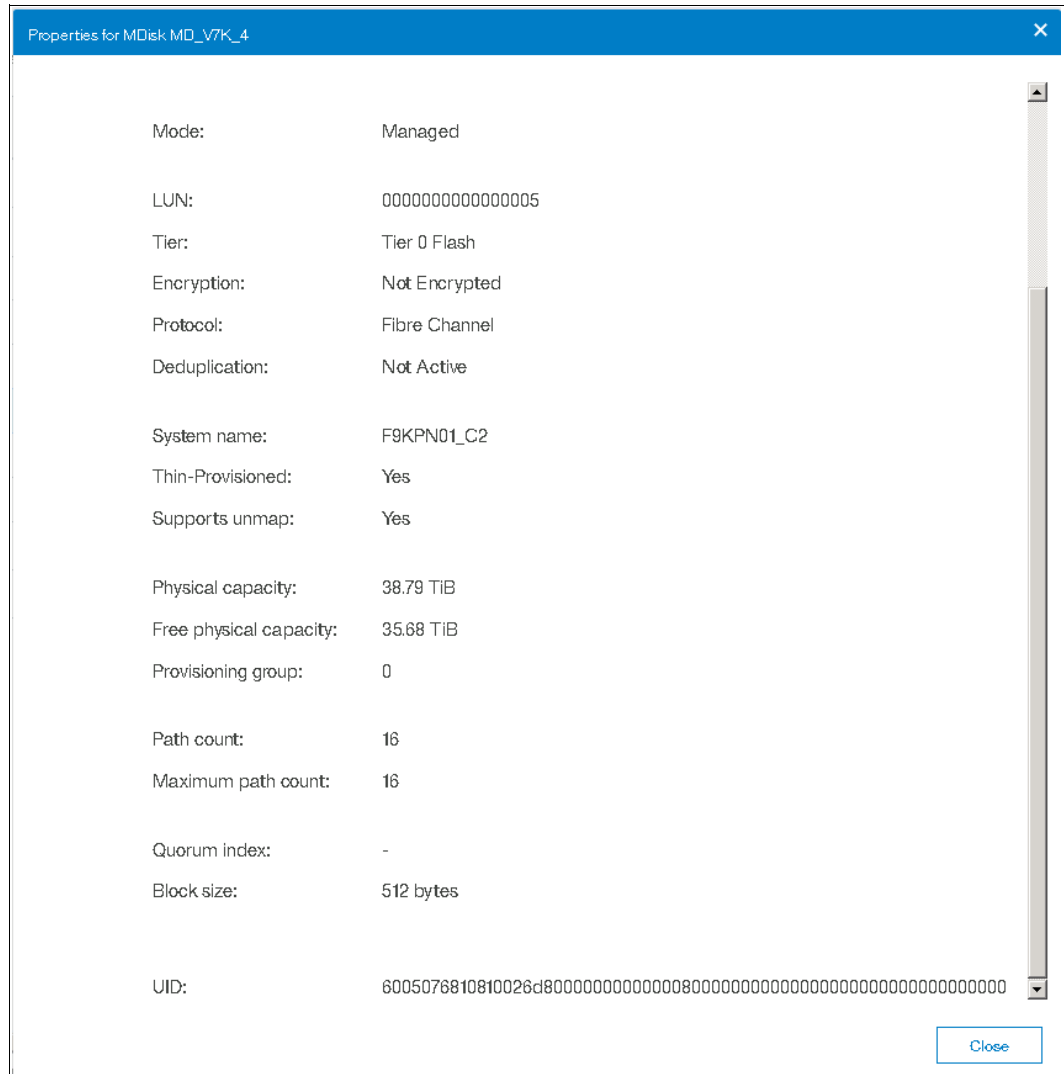

Figure 4-10 SAN Volume Controller MDisk details for IBM FlashSystem volumes
3. At the virtualizer, review the MDisk details and compare the MDisk UID field with the IBM FlashSystem Volume UID, as shown in Figure 4-10. The first 32 bits should be the same.